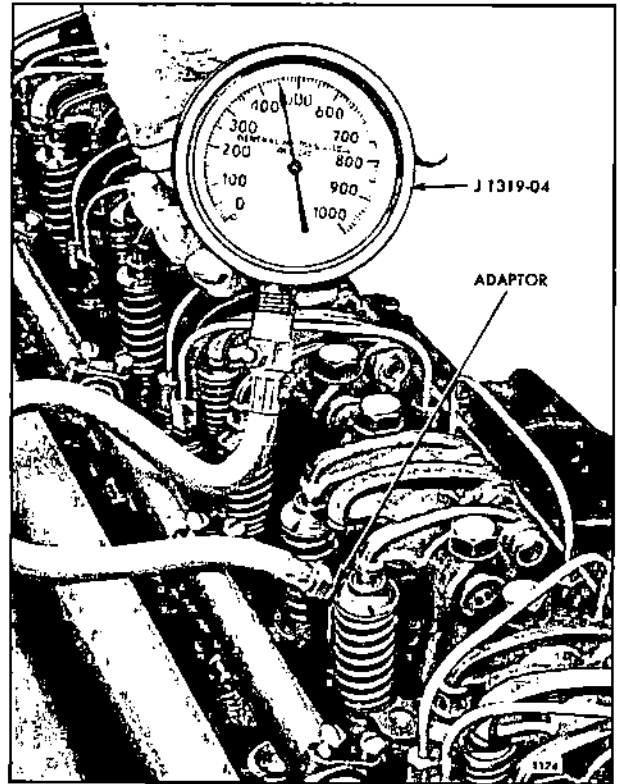

Fig. 2 - Checking Compression Pressure
3. Remove the injector from No. 1 cylinder and install the adaptor and pressure gage, J 1319-03, in place as shown in Fig. 2.